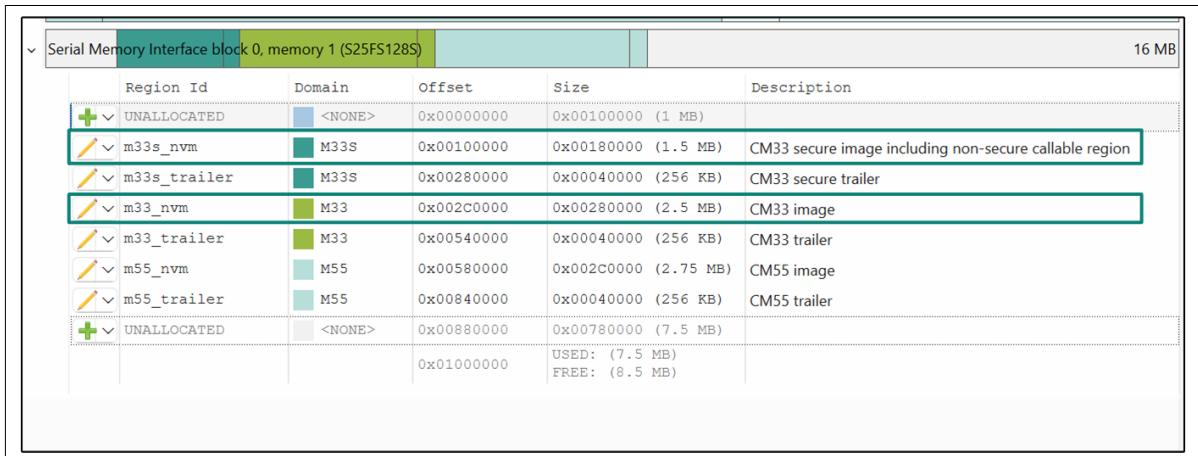

Figure 12 Custom memory layout for external flash
7. Once all updates are complete, verify that the final memory map matches the configuration shown in Figure 12. Save the design file to generate the linker files. The generated linker files for the custom memory layout will be present at bsp/TARGET_<BSP>/config/GeneratedSource/